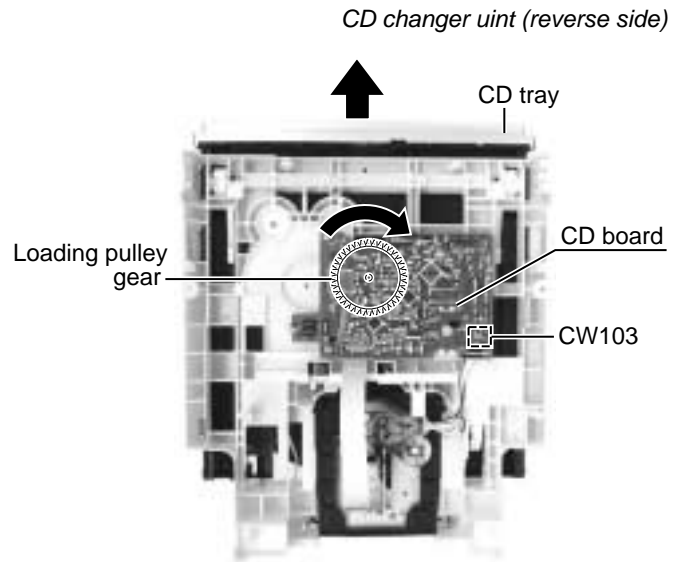

Fig.1
■ Removing the CD tray (See Fig.1 and 2)